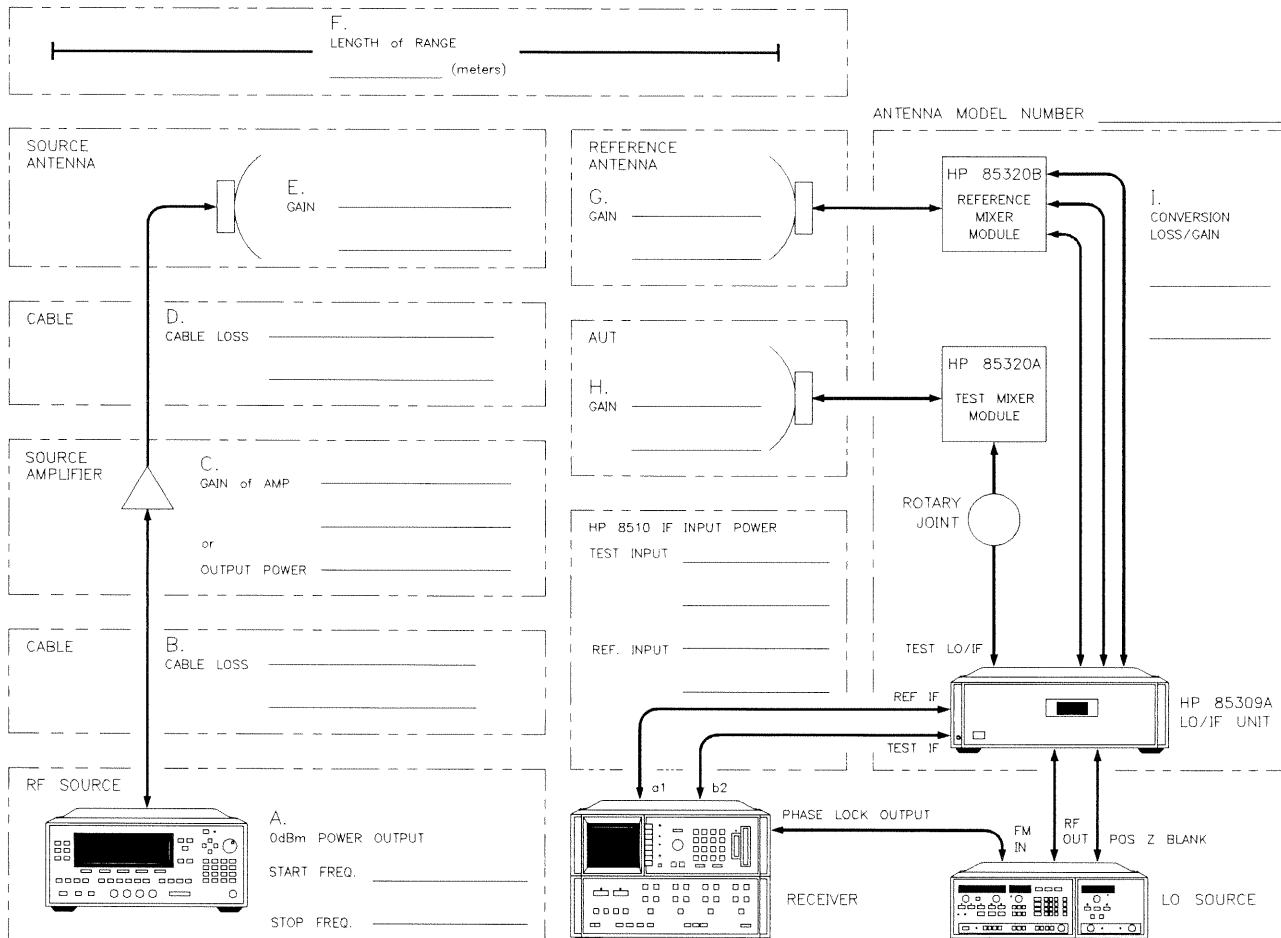

Figure 3-4. Known System Gain and Loss Values
Figure 3-4 shows attenuation and gain values required for later calculations. Read the following before using Figure 3-4.
Each box in Figure 3-4 has two entry blanks. For example, look at Box E, Source Antenna Gain. When making “wide” frequency range measurements, enter the antenna’s gain at the start frequency on one line, and its gain at the stop frequency on the other line. Do this for each box in Figure 3-4.
- **Narrow:** There is no noticeable change in system performance between start and stop frequencies. Use only one entry blank in each box of Figure 3-4.
- **CW:** Measurements occur only at single CW frequencies. Use only one entry blank in each box of Figure 3-4.
Photocopy the dynamic range worksheet (illustration and calculations) from Appendix B and fill it out. Item A is located in the lower-left hand corner of Figure 3-4. The other items (B through I) proceed clockwise from item A. A description of each entry box is provided after Figure 3-4.